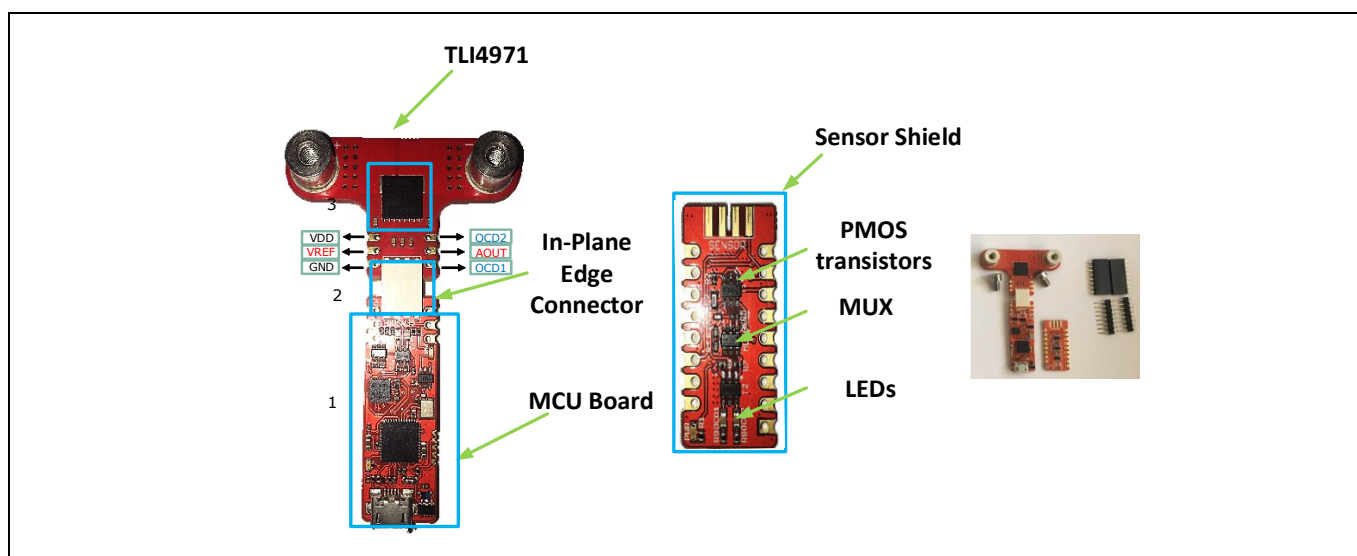

Figure 2 MS2Go kit component list
- Sensor board (equipped with M4 screw connectors for high current capabilities), built in thick copper technology (140um copper / dual layer) (see Figure 2).
- MCU board equipped with XMC1100 as target microcontroller and XMC4200 as debugger microcontroller. This board implements the application circuit of the sensor (see Figure 2).
- Sensor shield, in addition to the MCU board, the sensor board can be connected to the shield. This PCB only implements sensor application circuit & peripherals with connection pinout to XMC2go platform (see Figure 2). XMC2Go board mounted on the sensor shield board using the pin headers attached in the package.
- Zip lock bag with 2xM4 screws, 1 PCB edge connector (for connecting the sensor board to MCU board/shield), and pin headers (male & female) to access data lines (see Figure 2).